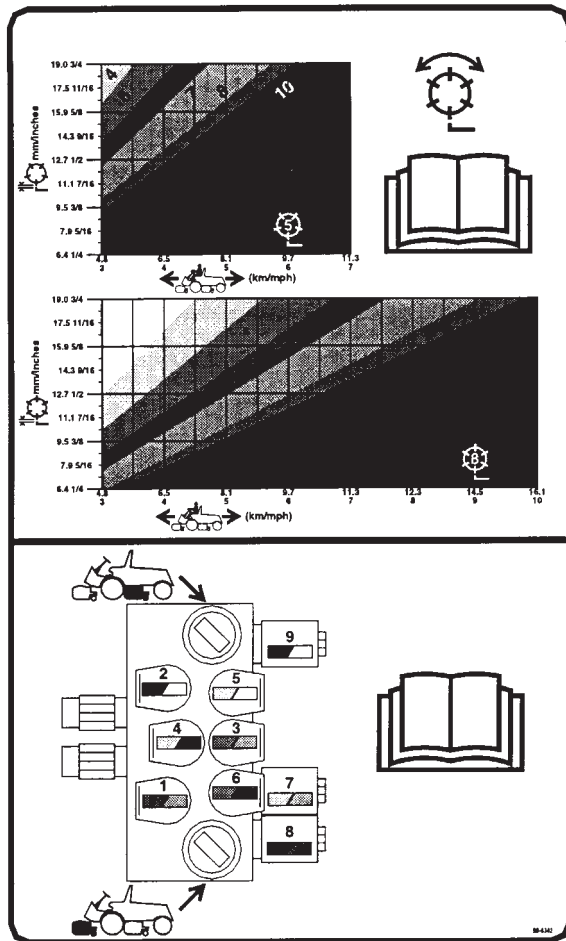

Figure 32
3. Using the appropriate graph (Fig. 32) for 5 blade or 8 blade cutting units, determine the proper reel speed setting.